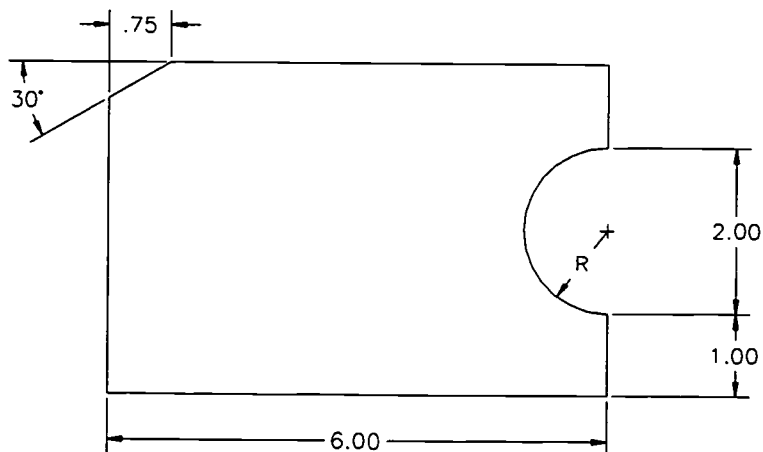

Figure 2
2. All a 1.00 diameter arc. First draw a full arc (i.e. circle), then use **Profile_Trim** to edit. Then, add chamfer as shown in figure 2.